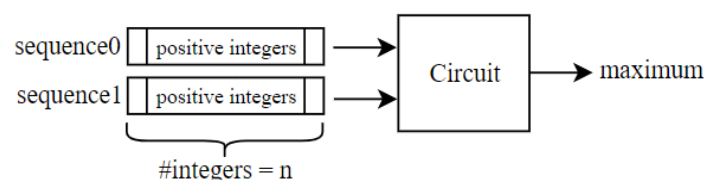

Fig. 2. Problem Formulation.
(1) Problem Formulation: See Fig. 2 for clearer concept about the description here. Two sequences of positive integers will be sequentially loaded into the circuit, one pair of integers per cycle. However, the length of a sequence (the number of the integers in a sequence) is not a fixed value. The two “valid” integers which are loaded into the circuit in a cycle will perform an operation and generate a result. After loading two sequences entirely, there should be many results. The circuit needs to find the maximum among these results. So, for these two sequences of integers, the circuit outputs one result (the maximum).